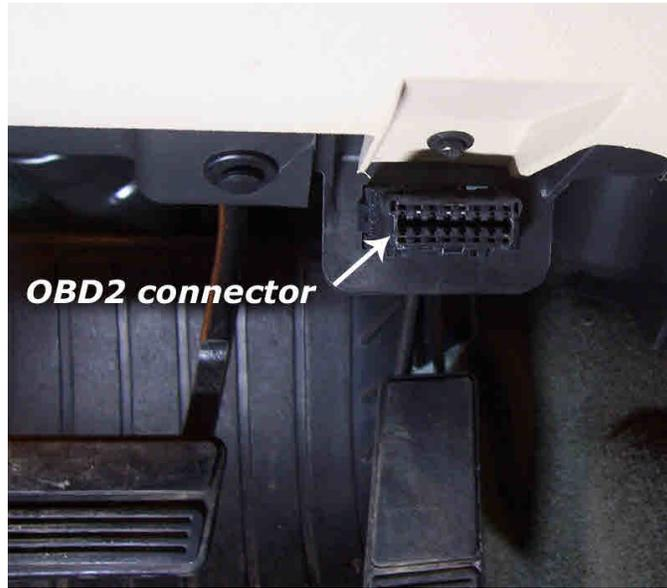

Figure 2
4. **Plug the main cable connector into the OBD2 connector.** See figure 2. The data, ground, and power on most vehicles come from this connector.